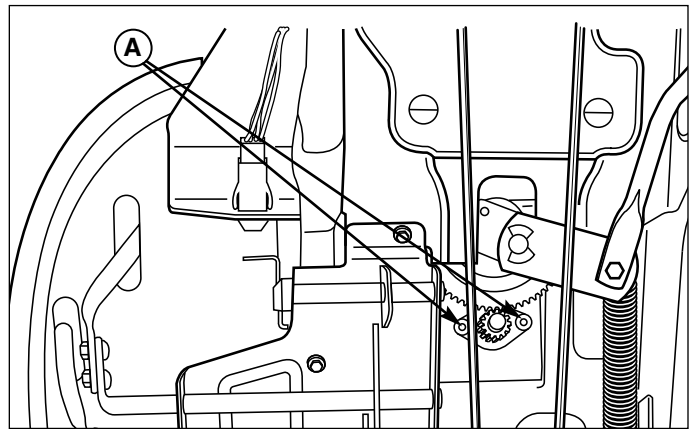

Figure 42. Steering Gear Adjustment
1. See Figure 42. Locate the steering gear assembly on the underside of the tractor. Loosen the two nuts and adjust the bracket so the gear teeth are closely meshed.
2. Tighten nuts (A, Figure 42) to 36-44 ft. lbs. (49-59 Nm) after adjustment.